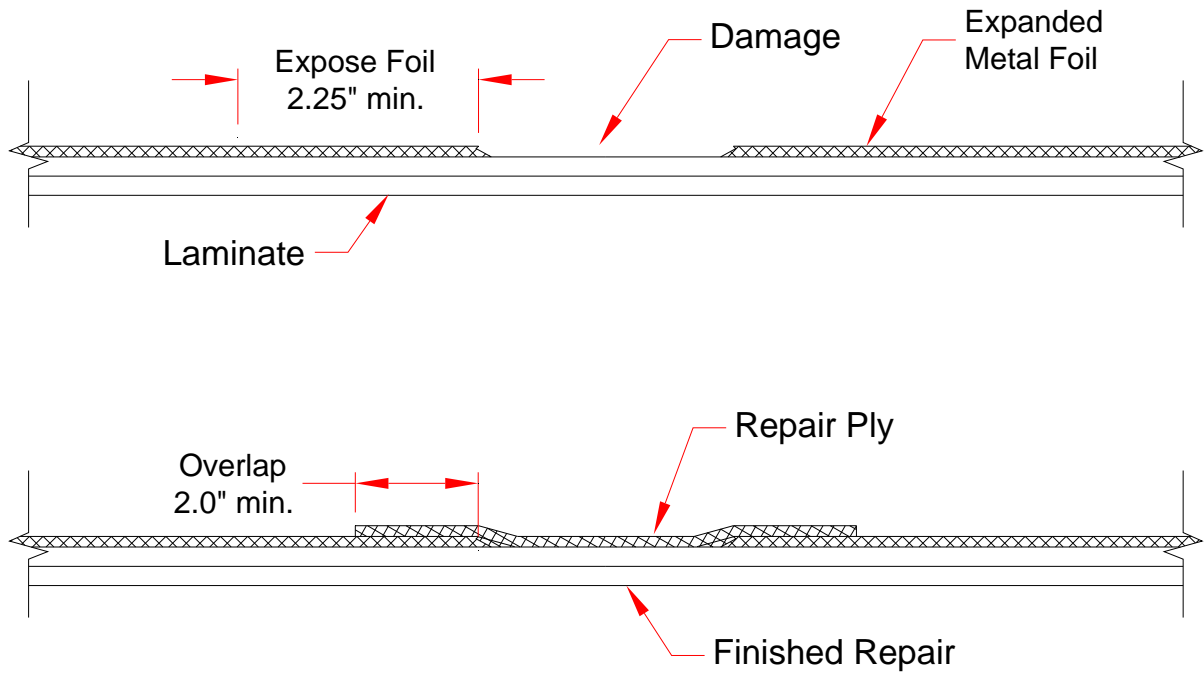

Figure 51-20-06 Expanded Metal Foil Repair
Step 2. Expose a minimum of 2.25 inch of expanded foil around damage perimeter by **lightly** sanding the resin using 120 grit or finer sanding paper. See Figure 51-20-06.